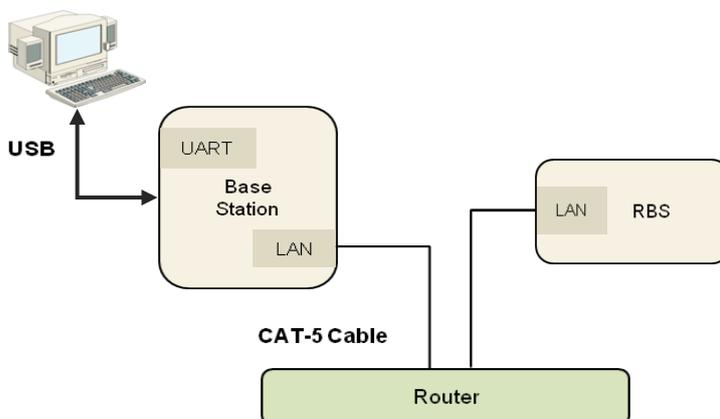

Figure 3-27. Connections example
Step 3: Wire the Base Station with the Remote Base Station for actual operation as shown from the Figure 3-27.